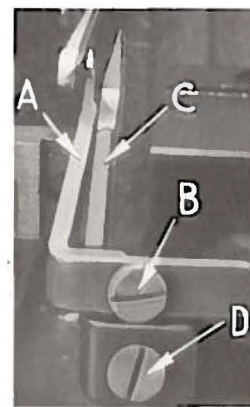

Fig. 5
Set rear needle guard (A, Fig. 5) as high as possible, without interfering with either the spreader or movement of lower knife holder, but still in position to deflect needle forward .002 - .004 inch. Screw (B) is used to set rear needle guard. Make sure there is no interference between rear needle guard and spreader.
Assemble front needle guard (C, Fig. 5). When spreader is springing needle off back guard, set front needle guard as close as possible to needle without touching. Screw (D) is used to adjust and set front needle guard. After this setting make sure there is no interference between needle guards and feed dog.